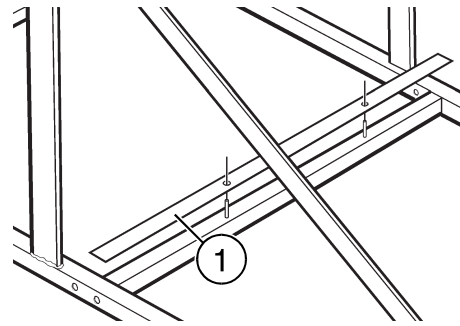

Figure 13: Placing Wear Strip
Step 10: Place a wear strip (Item 1) over the pins on each of the back rails (Figure 13).